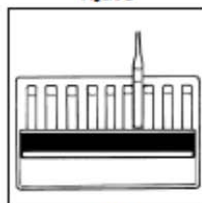

Figure 3
5. Obtain a test result by placing the ampoule between the color standards until the best color match is found (fig 3).